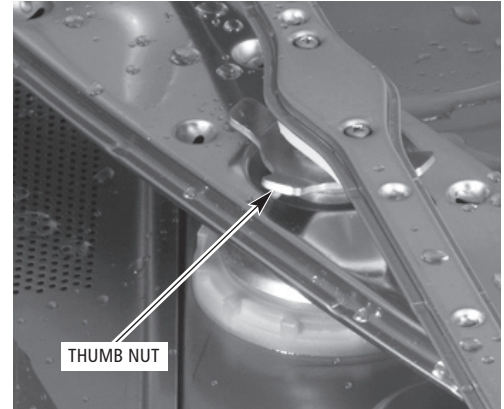

Figure 8
2. Remove the lower rinse arm by unscrewing the thumb nut (*Figure 8*). Remove the lower wash arm by pulling the arm off the shaft. Remove the upper rinse and wash arms in the same manner. Remove the coarse and fine strainers (see *Figures 5 and 6*). Thoroughly clean these items in a sink. Remove debris from wash/rinse arm nozzles.